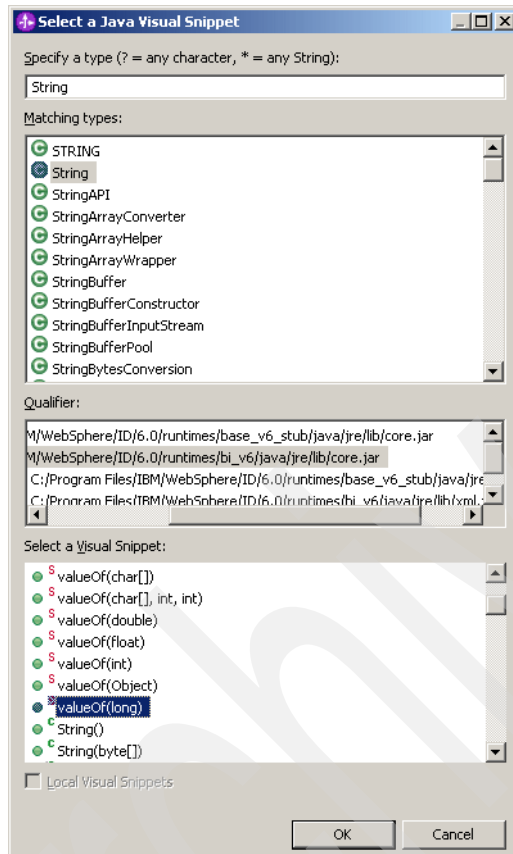

Figure 2-31 Select method
20. The `valueOf` will convert the milliseconds to a string (Figure 2-31).